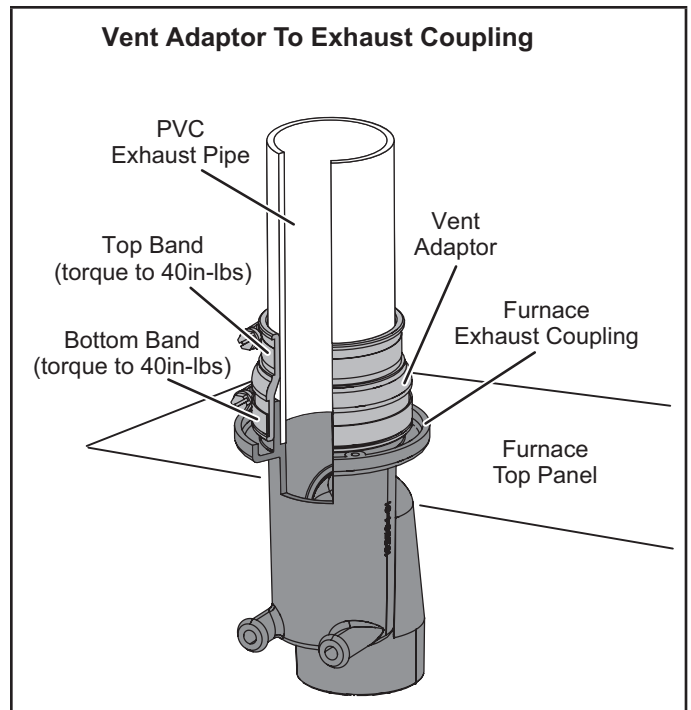

FIGURE 17
NOTE - Vent pipe must be installed with provided vent adapter. See figure 17.
Exhaust Piping (Figures 17, 18, 20 and 21)
- 4 - Tighten both top and bottom bands to 40in-lbs. See figure 17.